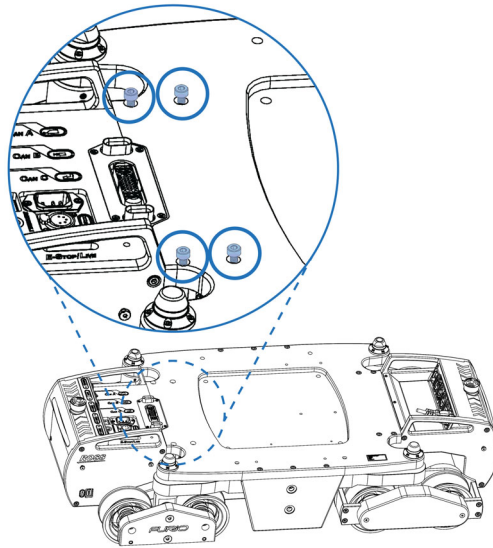

Figure 18 - Four Mounting Screws that Secure the FRU
2. Insert and tighten the four mounting screws you removed in “**Remove the FRU (Optional)**” on page 17, using a 5 mm hexagonal wrench. Refer to **Figure 18**.